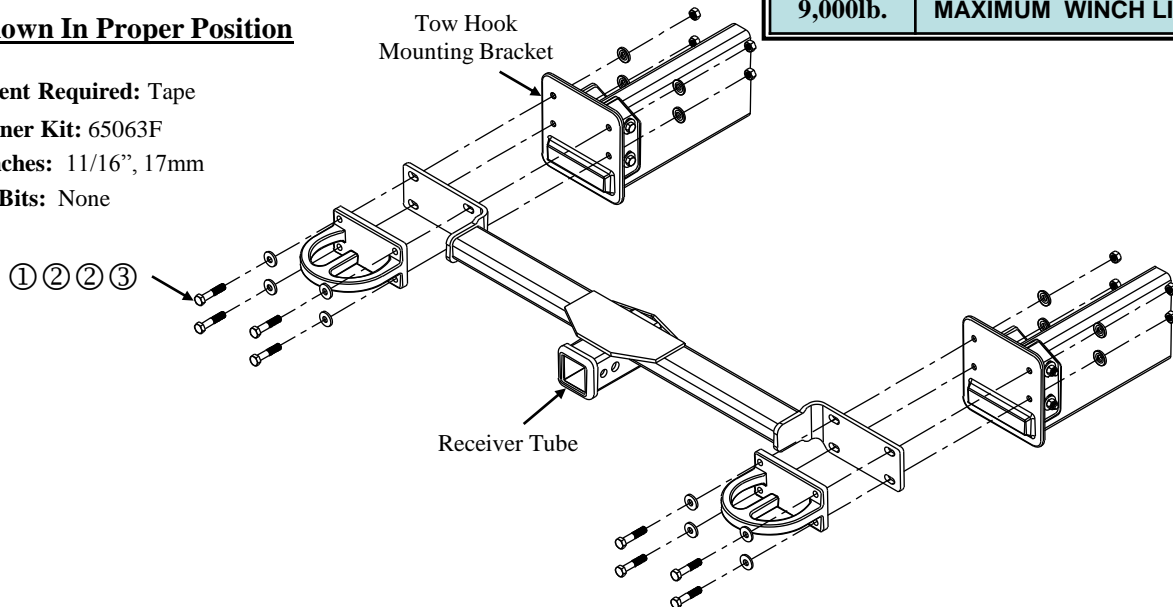

Figure 3: Hitch Installation
5. On the reverse side of tow hook mounting bracket install fasteners as shown in Figure 3.